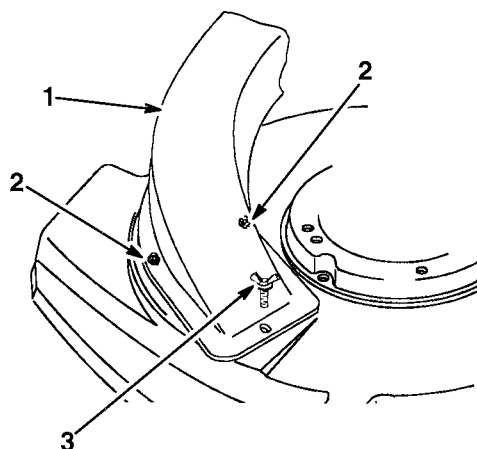

Figure 42
2. Place chute assembly into housing opening (Fig. 42).
5. Secure chute assembly to housing with a wing screw (Fig. 42).